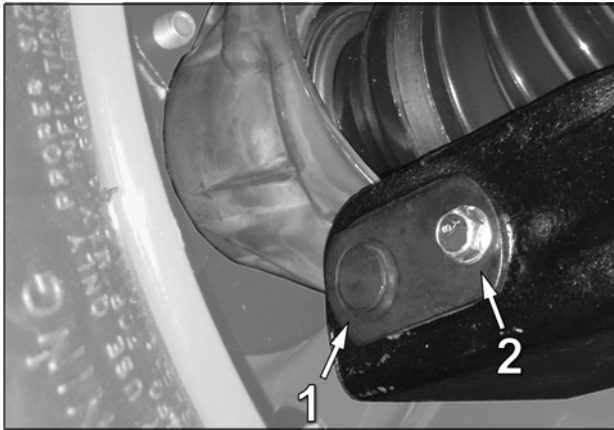

Fig. 5
5. Loosen and remove flange bolt (2) to remove knuckle pin (1) and decouple lower suspension arm from wheel hub. See Fig. 5